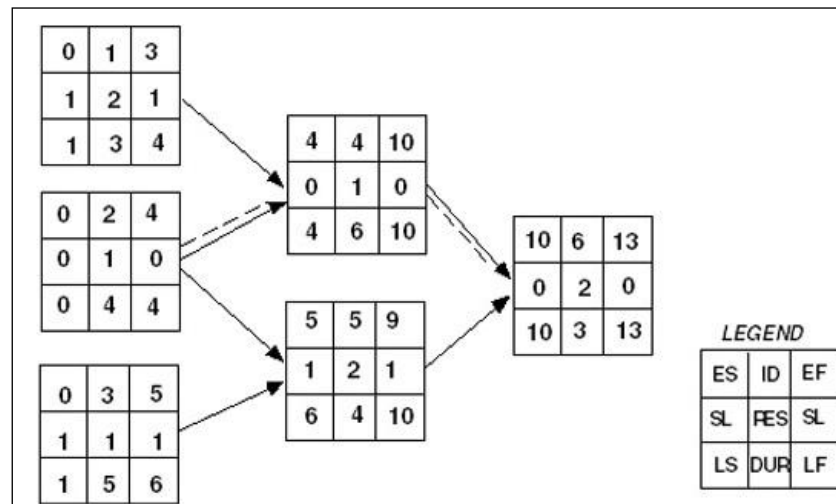

Figure 3: Project Network
5. Compute the early, late, and slack times for the activities as shown in Figure 3, assuming it is a time constrained network.